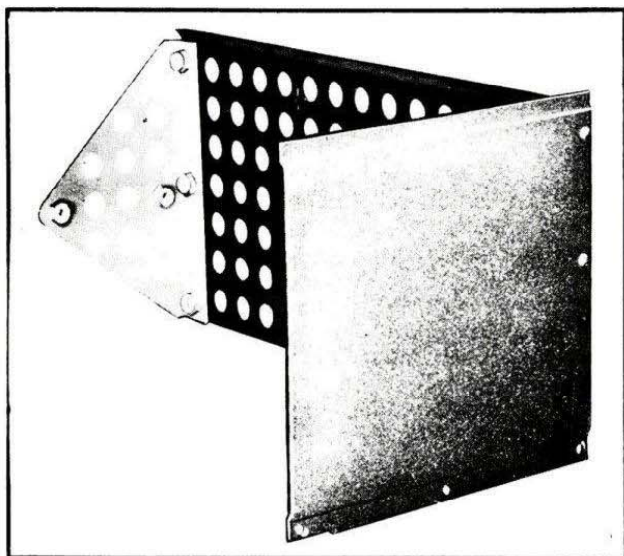
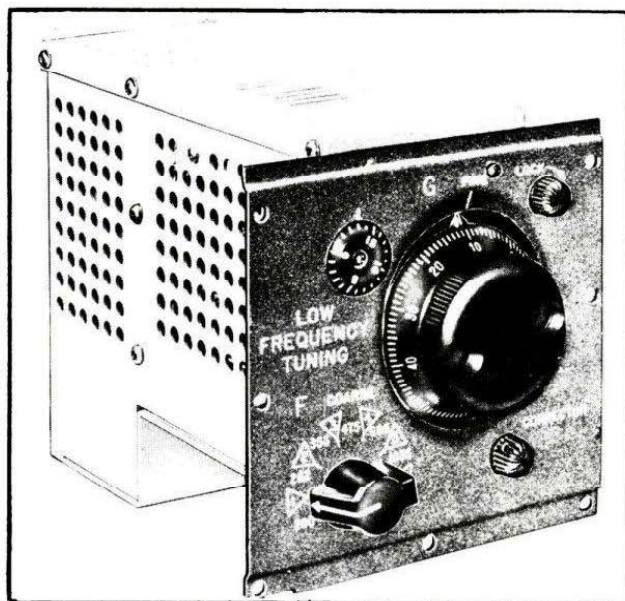

Figure 1-7—Panel MX-128/ART-13
Figure 1-8—Oscillator O-16/ART-13
(1) GENERAL.—Low frequency oscillators are available for extending the frequency range of the transmitter below 2000 kilocycles. These oscillators are installed in the transmitter proper and obtain their power from the circuits in the transmitter. The front panel of the oscillator, which contains the controls for it, forms a part of the front panel of the transmitter. Check points for the calibration of the low frequency oscillators are obtained from the same MCW-CFI unit that provides check point for the high frequency oscillator in the transmitter. Therefore, care must be exercised in the use of calibration tables to be sure that the proper table is used with the MCW-CFI unit in the transmitter.
(2) OSCILLATOR O-16/ART-13. Figure 1-8 covers the frequency range 200 to 1500 kilocycles. Calibration table 5-3 is for this oscillator with 8Q-2 and calibration table 5-6 is for this oscillator with 8Q-1. The tables in ATC or ATC-1 calibration books, editions 1 through 4 are for this oscillator with 8Q-1. Refer to paragraph 6A, section V for calibration instructions for this oscillator when the MCW-CFI 8Q-2 unit is used.
(3) OSCILLATOR O-17/ART-13A. Oscillator O-17/ART-13A covers the frequency range 200 to 600 kilocycles. Calibration table 5-1 is for this oscillator with 8Q-2 and calibration table 5-4 is for this oscillator with 8Q-1. The tables in the Calibration Book for Radio Transmitting Set AN/ART-13A are for this oscillator with 8Q-2.
(4) PANEL MX-128/ART-13. Figure 1-7 is a blank panel with a resistor to be installed in the transmitter when no low frequency operation is desired. It fills the part of the transmitter panel used for the low frequency oscillator controls and provides the necessary